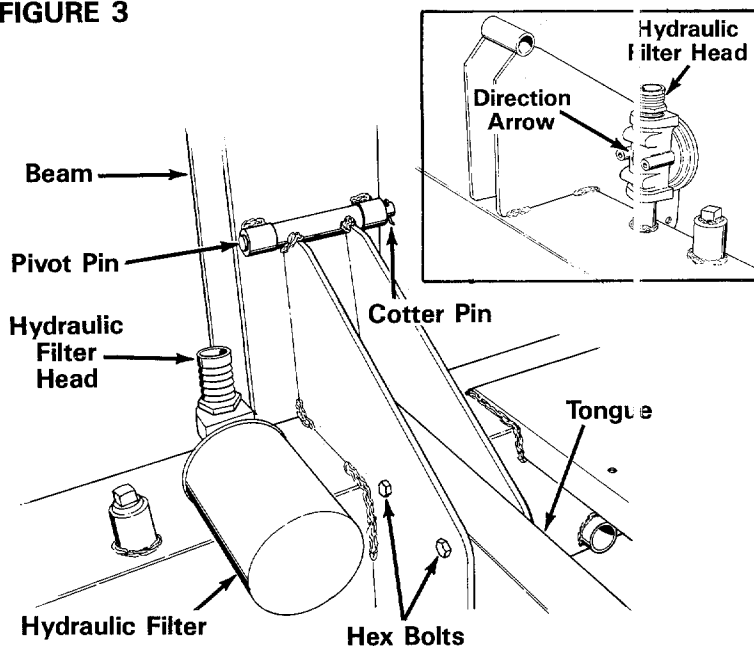

FIGURE 4
2. Thread hydraulic filter head onto fitting on top of the reservoir tank as shown in figure 4, inset. The direction arrow on the filter head must point down toward the tank. Filter head must be positioned as shown.
3. Oil the gasket on the top of the hydraulic filter using automatic transmission fluid. Thread the hydraulic filter onto the hydraulic filter head as shown in figure 4. Tighten by hand.
2. Remove the pivot pin from the bracket on the beam by removing the cotter pin. See figure 4.
2. Remove the two hex bolts, lock washers and hex nuts on the front of the reservoir tank. Place the tongue in position and secure with hardware just removed. See figure 4.